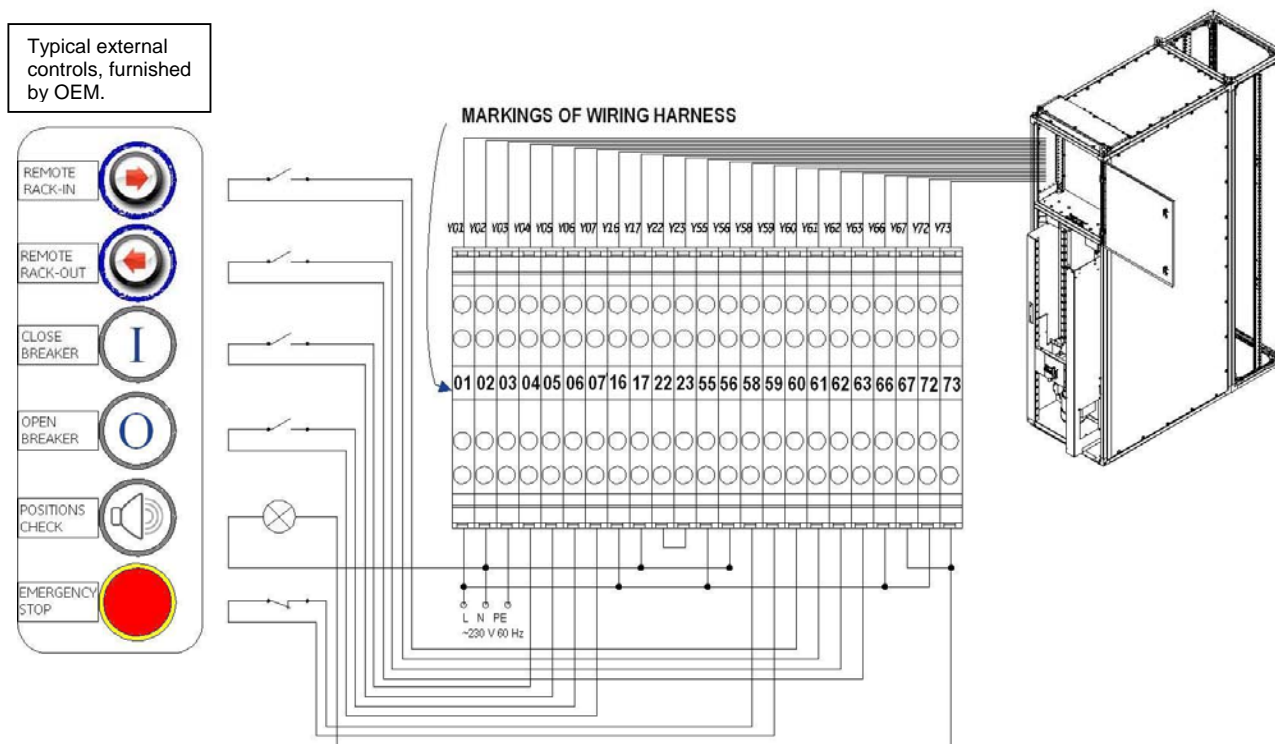

Fig. H-1 Wiring diagram for connection of control functions for the module.
- ✓ Connecting control commands to the module. See Fig. H-1